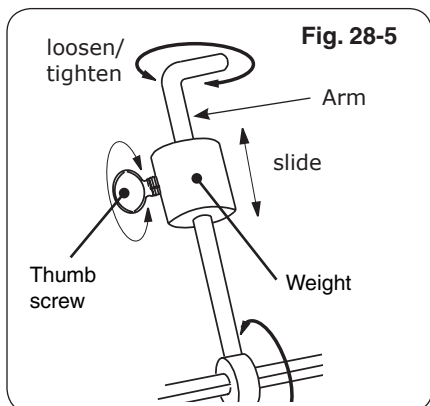

Fig. 28-5
7. Slide the counterbalance weight up or down the arm until the rod rotates most evenly then tighten thumb screw (Fig. 28-5 and Fig. 28-6).